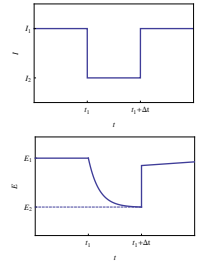

Fig. 1: Current and voltage change versus time after current pulse applied at t₁. ΔE(t) = E₂-E₁; ΔI(t) = I₂-I₁
Currently, several types of batteries are investigated (Li-ion, LiFePO₄, ...). Each type has its own specifications such as nominal voltage (V), capacity (A.h), power (W), energy (W.h), cyclability... The dynamic resistance R_{dt} of a battery is also a relevant parameter. This resistance can be determined by a simple current interrupt technique. In this technique, a current pulse is applied to the battery and the voltage shift is measured after a certain period of time Δt (Fig. 1).